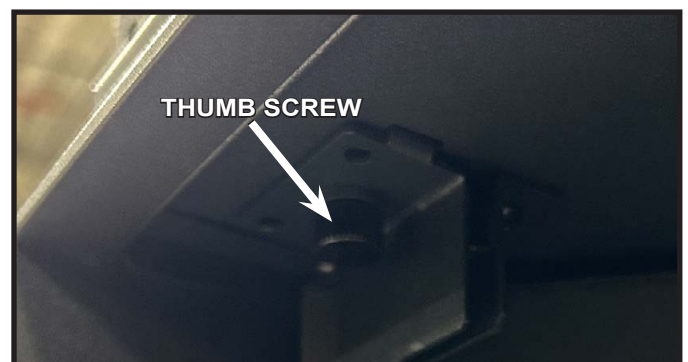

Figure 1 Remove Glass
1. Remove the two (2) thumb screws and brackets located on the inner upper corners of the appliance opening. See Figure 1.